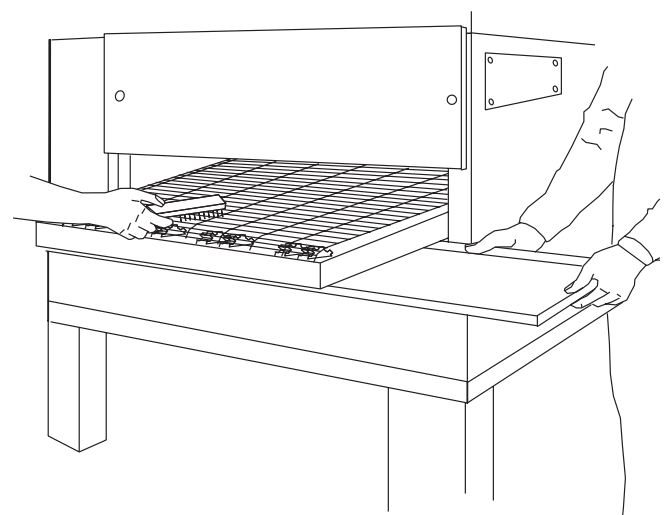

Figure 4-2. Conveyor Belt and Crumb Pan Cleaning
C. Conveyor Belt (Figure 4-2)
D. Crumb Pans (Figure 4-2)
When oven is cool remove and clean the crumb pan at each end of the oven. Each crumb pan can be removed by sliding it out, as shown in Figure 4-2. Reinstall the crumb pans after cleaning.